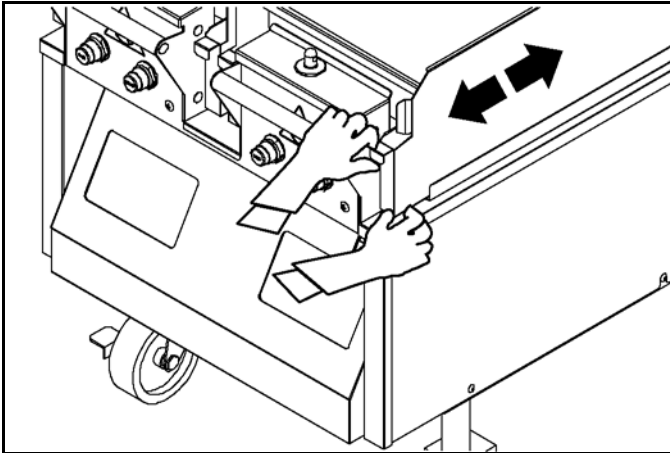

Figure-189
27. Remove and empty the grease trough. Rinse and replace it. See Figure-189.